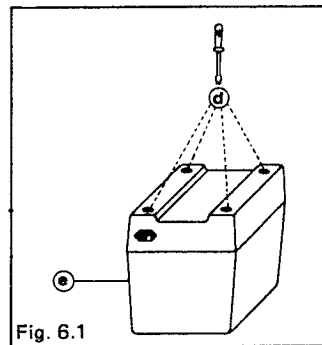

Fig. 6.1
- Unscrew screws ① on the bottom of the instrument using a cross-head screw-driver (size 2) (Fig. 6.1).